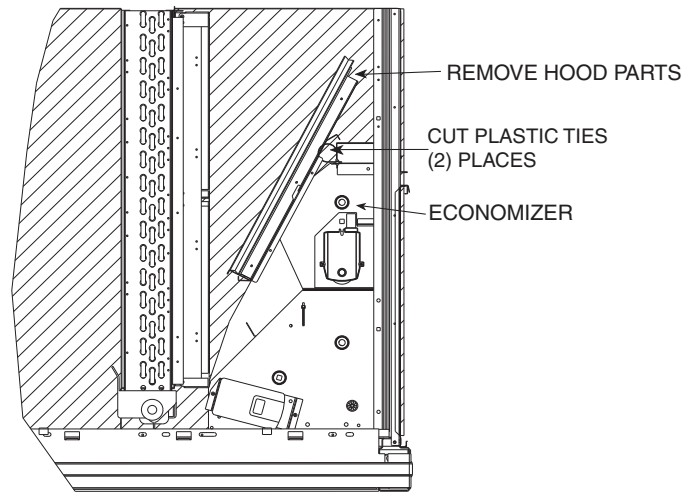

Fig. 11 — Economizer Wiring
2. Locate and cut the (2) plastic tie-wraps, being careful not to damage any wiring. (See Fig. 11.)